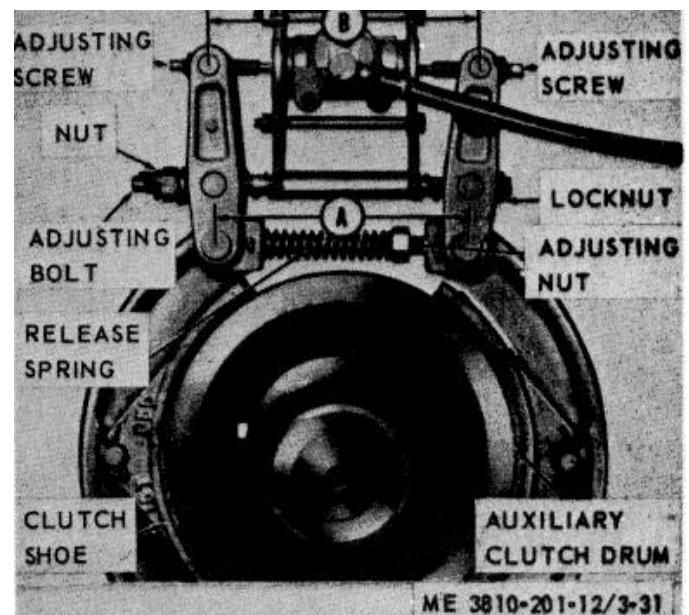

Figure 3-31. Auxiliary (booster) clutch adjustment points.
(1) To compensate for normal clutch lining wear, loosen locknut (fig. 3-31) and turn adjusting bolt. Do not adjust nut for normal band wear adjustment.
(2) If the unit has been disassembled for any reason, adjust as follows: